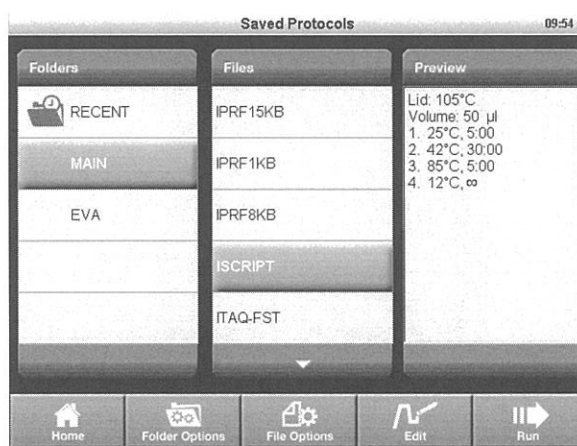

Figure 15. The ISCRIPRT protocol selected from the Saved Protocols screen
1. To run a saved protocol, touch **Saved Protocols** from the home screen (Figure 15).